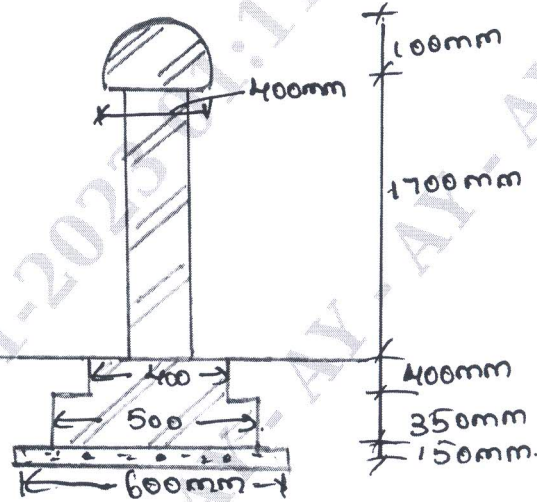

Fig.Q.10(b)
- b. Design a compound wall the height of which is 1.8m up to the top of coping (Fig.Q.10(b)). Assume wind pressure is equal to  $1000\text{N/m}^2$  and is uniformly distributed. SBC =  $120\text{kN/m}^2$ . (12 Marks)